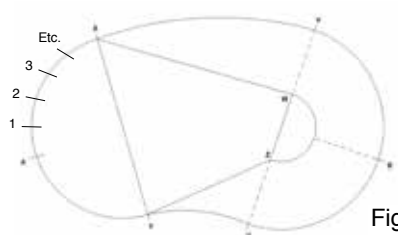

Fig. 4
7. Locate points X and Y (the ends of the shallow end break-over line) on the perimeter – as defined by measurements from A & B. It is usually easiest to incorporate these points into your original numbered points (see 2 above). In the example shown in figure 4 you would make X the same as point 4 and Y the same as point 17. See figure 4.
on the perimeter. As with points X & Y above, it is best to incorporate these points onto your original numbered points (see 2 above). In the example shown in figure 4 you would make U the same as point 14 and V the same as point 7. Stand with your line of sight vertically above point U and look across the pool through points Z & W to V. Make sure they all line up in a continuous straight line (the dotted line on the drawing). Do the same exercise looking across from point V. See figure 4.